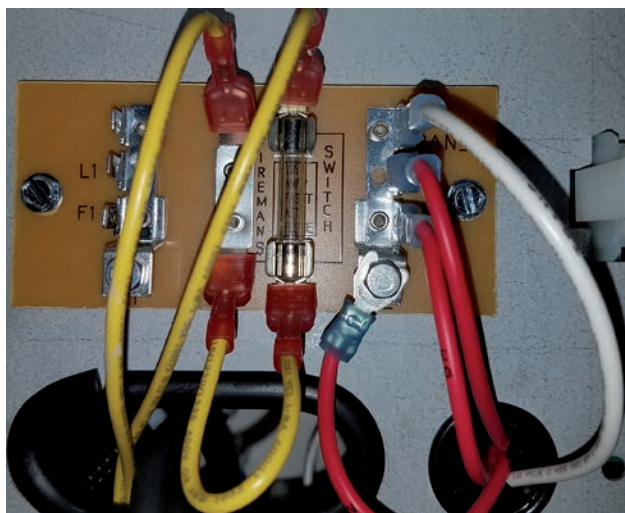

Figure 31.
3. Locate the **Fireman Switch jumper wire**; remove the wire. See Figure 31 below.
4. Connect the **Remote Control Dry Contact wires**. See Figure 31 below.
#### **TIME CLOCK/FIREMAN'S SWITCH (See Figure 31 above):**